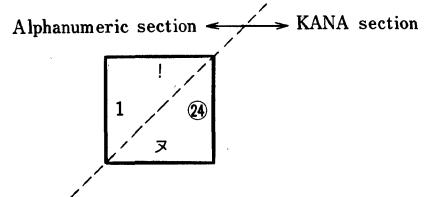

Fig. 3 Keyface symbols
The compatible keyboard types, their configuration and status control switches on the key matrix and shown in Fig. 3. Conformity of key data to the JIS code requires the key arrangement shown in Fig. 2. The status control circuit should consist of the SCAN1-SCAN2 and key scan input signals (KSI1-KSI8). (Note. Shaded sections in the fig. are not usable.)
① Data key block: Consists of 96 keys arranged on the matrix composed of scan signals SCAN5-SCAN16 and key scan input signals KSI1-KSI8. When the JIS code system is selected (code select switch at OFF), key data is encoded into the transmit character codes shown in Fig. 5. In this case the key arrangement shown in Fig. 3 is required. When the native code system is selected (code select switch at ON), key data is encoded into the transmit character codes as shown in Fig. 6.